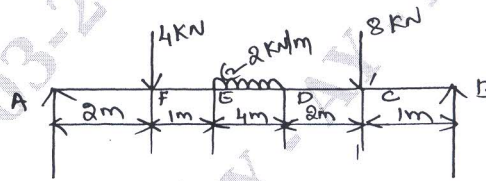

Fig.Q5(b)
b. Draw the Shear force and Bending moment for the simply supported beam as shown in Fig.Q5(b).